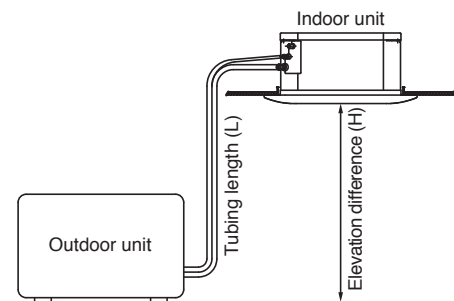

Fig. 2
- install the unit within the maximum elevation difference (H) above or below the outdoor unit and within a total tubing length (L) from the outdoor unit as detailed in Table 3 and Fig. 2.